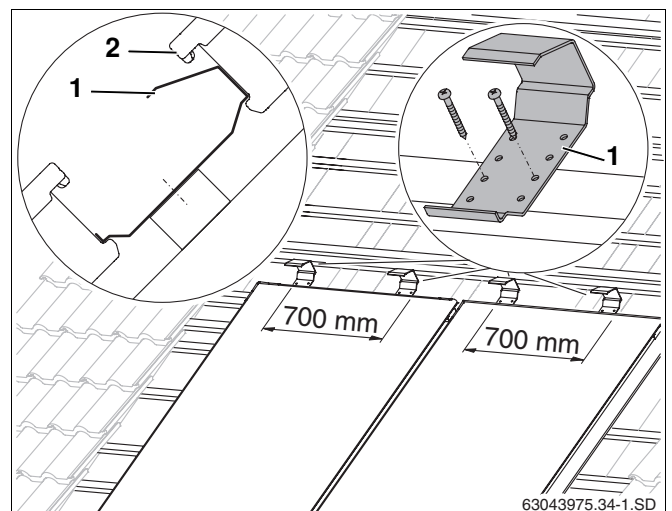

Fig. 29 Anti-slip protection devices for the second collector array
- Put two anti-slip protection devices (Fig. 29, **Item 1**) per collector, halfway along (700 mm apart) over the lower collector onto the fourth additional batten on the lower row, and fasten with two 4x40 screws.
- Allow the collectors in the upper row (Fig. 29, **Item 2**) to slide against the anti-slip protection devices and align with the lower row.